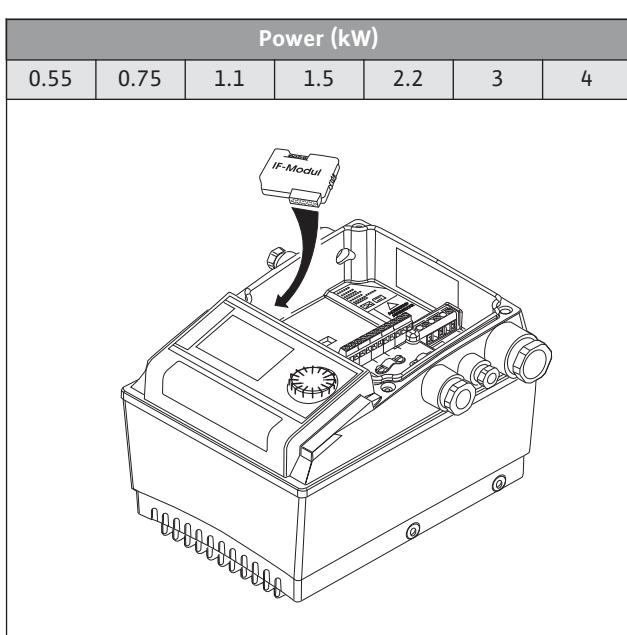

FIG. 2, 3
- For heavy pumps, install a lifting hook (Fig. 2, Pos. 12) above the pump to facilitate its disassembly.